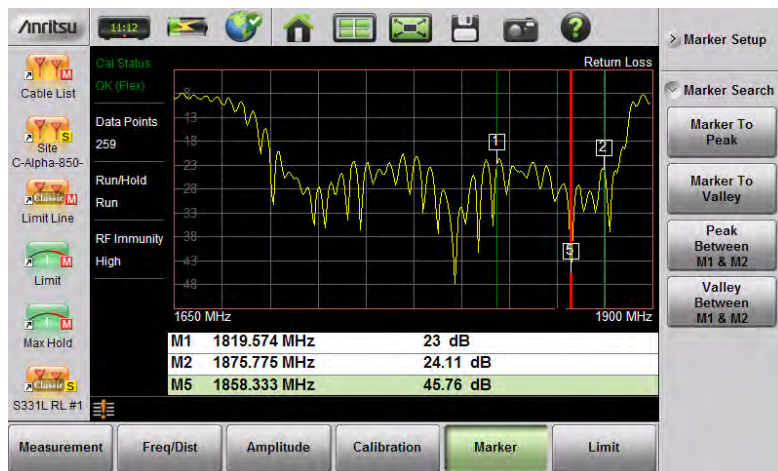

Figure 3-26. Bounded Marker Search
4. In Figure 3-26 on page 3-45, Marker 5 moved to the valley bounded by M1 and M2 instead of the lowest point (48 dB) to the left of Marker 1. The valley search would also work if M1 and M2 were set and then turned off.